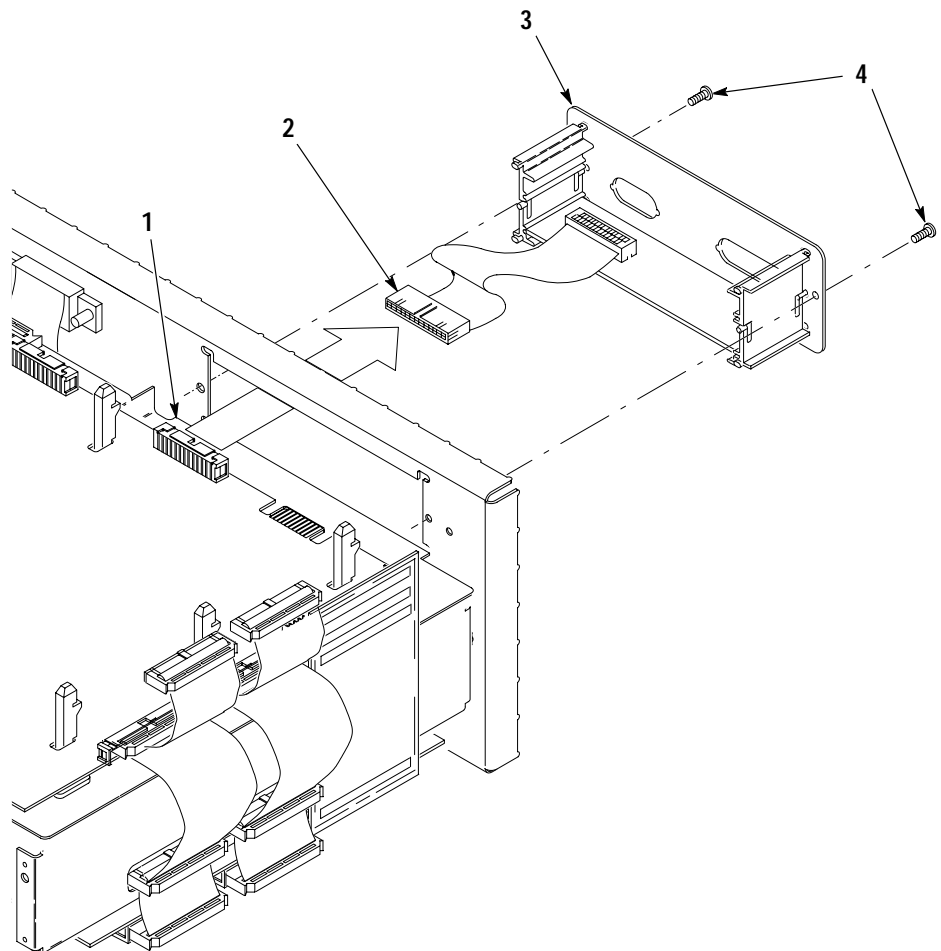

Figure 6-14: Circuit Board Assembly Removal
- a. Using a screwdriver with size T-20 Torx® tip, remove the two screws (number 4 in Figure 6-14) securing the rear plate of the circuit board assembly.